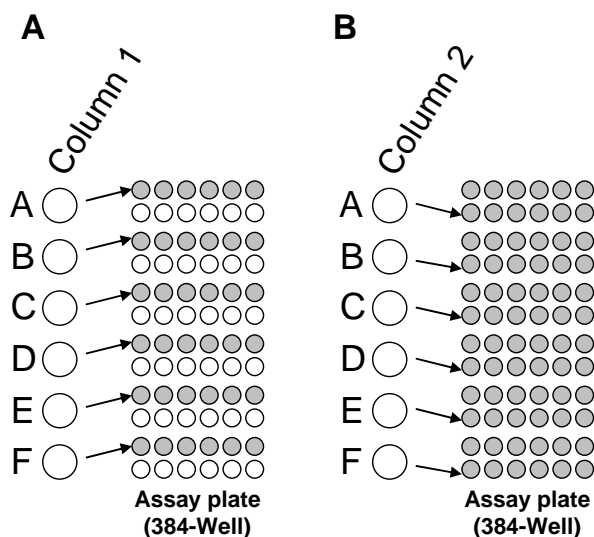

Figure 3. Transfer of tracer dilutions from 96-well to 384-well plate.
1. Add 5 µL of each concentration of serially diluted tracer to six replicate assay wells in a 384-well plate (columns 1-6) as depicted in Figure 3.